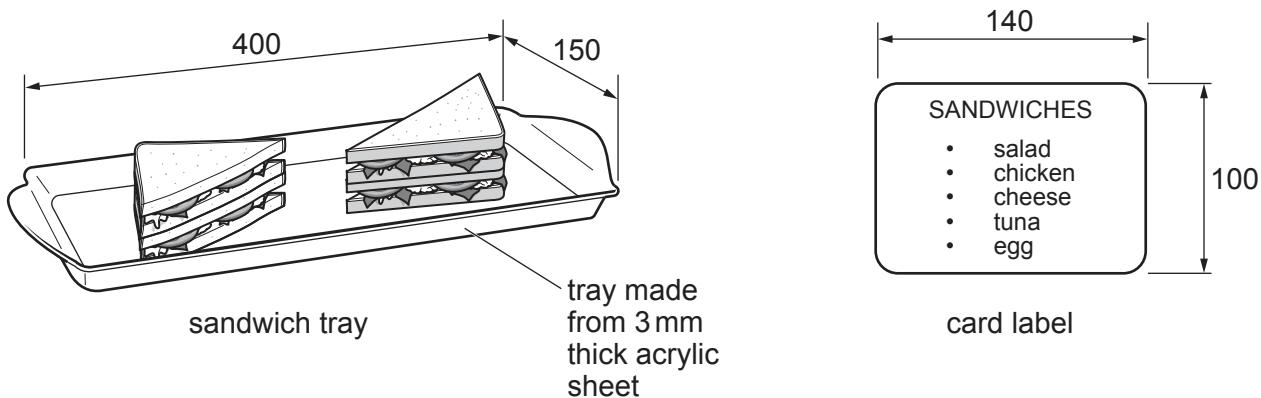

Fig. 7.1
7 Fig. 7.1 shows details of a tray for serving sandwiches, and a card label.
- (a) Use notes and sketches to **develop** a design for a frame that supports **two** sandwich trays of the type shown in Fig. 7.1. It must be possible to easily remove the trays for cleaning. [20]